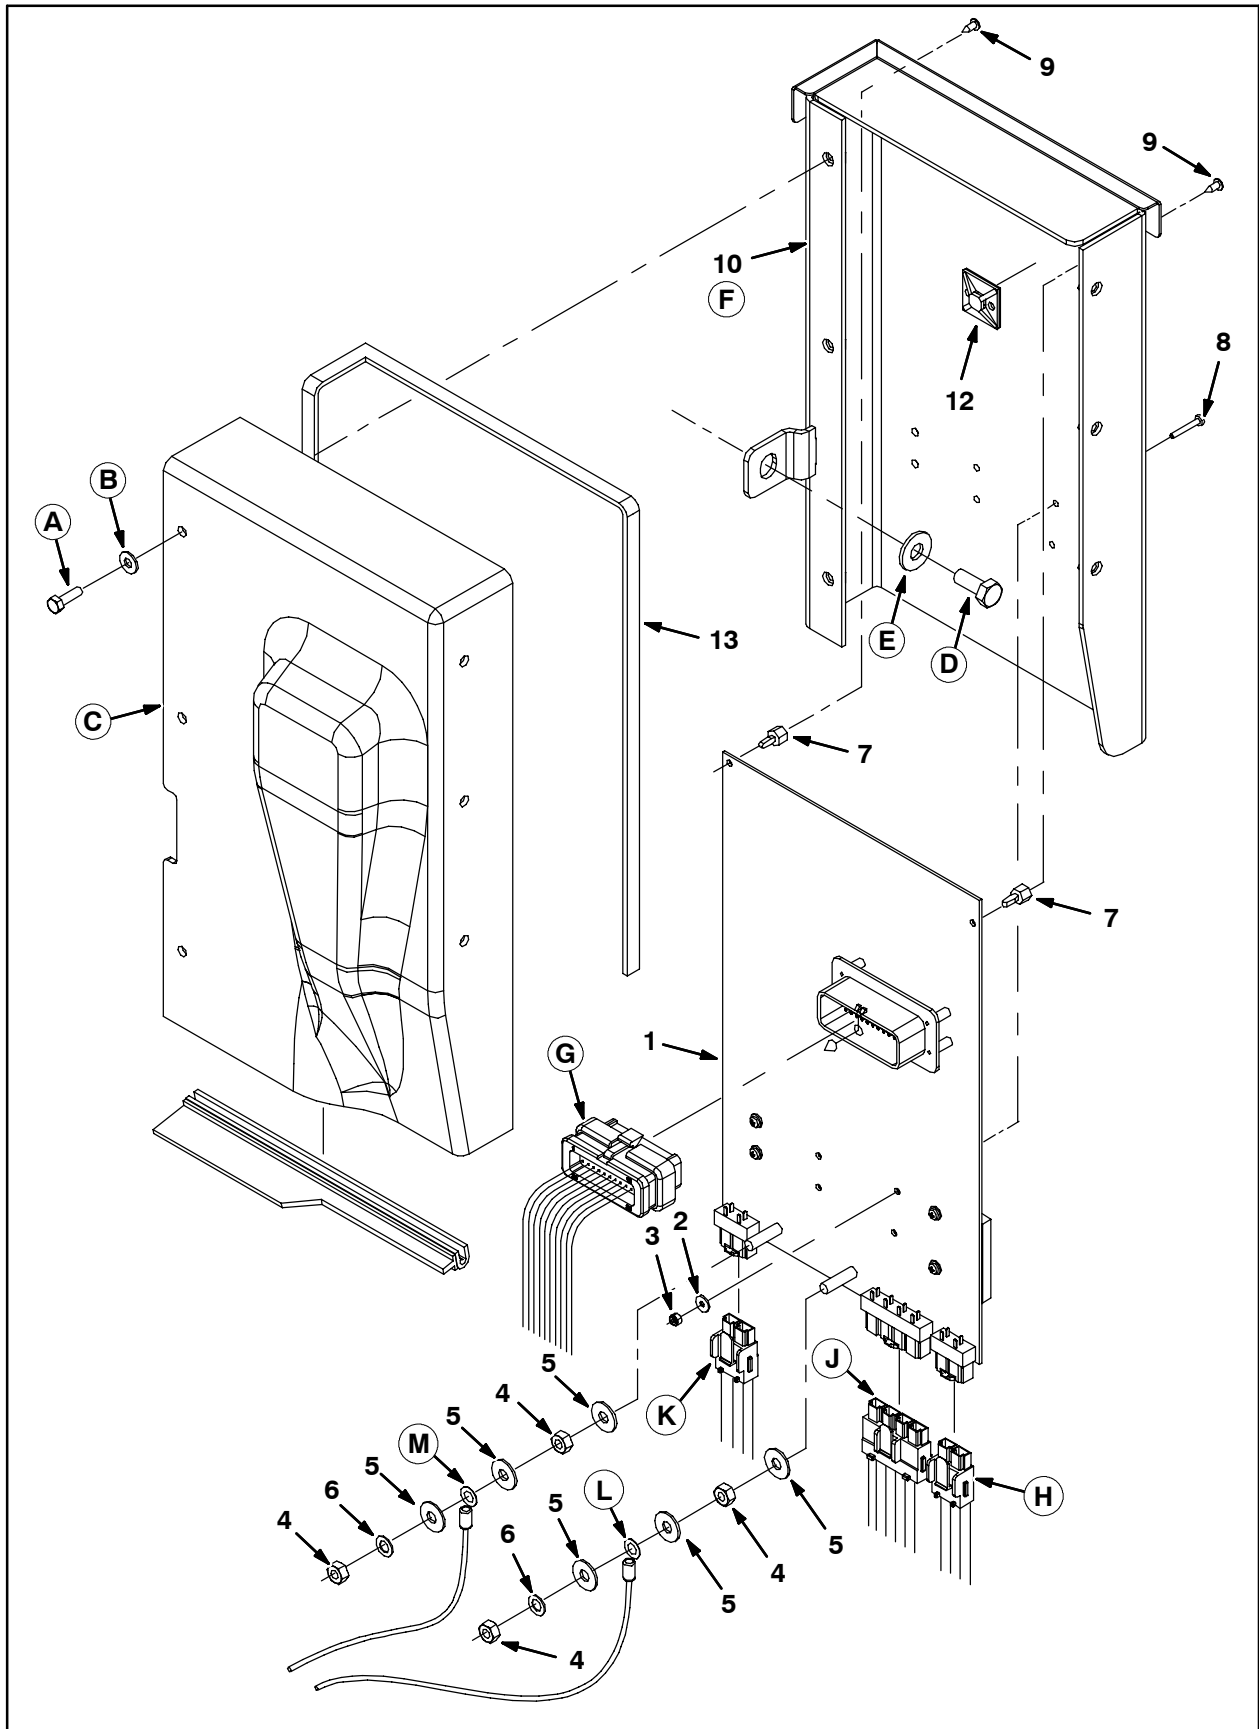

FIG. 4
(Refer to Fig. 4 for the remainder of this Instruction Bulletin unless otherwise noted)
9. Use two hex nuts (4), three flat washers (5), and one lock washer (6) to install the positive (+) red power cable (L) onto the positive terminal on the circuit board (1). Torque both nuts to 33 in/lbs. Be sure parts are installed as shown in Fig. 4.
10. Use two hex nuts (4), three flat washers (5), and one lock washer (6) to install the negative (-) black power cable (M) onto the negative terminal on the circuit board (1). Torque both nuts to 33 in/lbs. Be sure parts are installed as shown in Fig. 4.